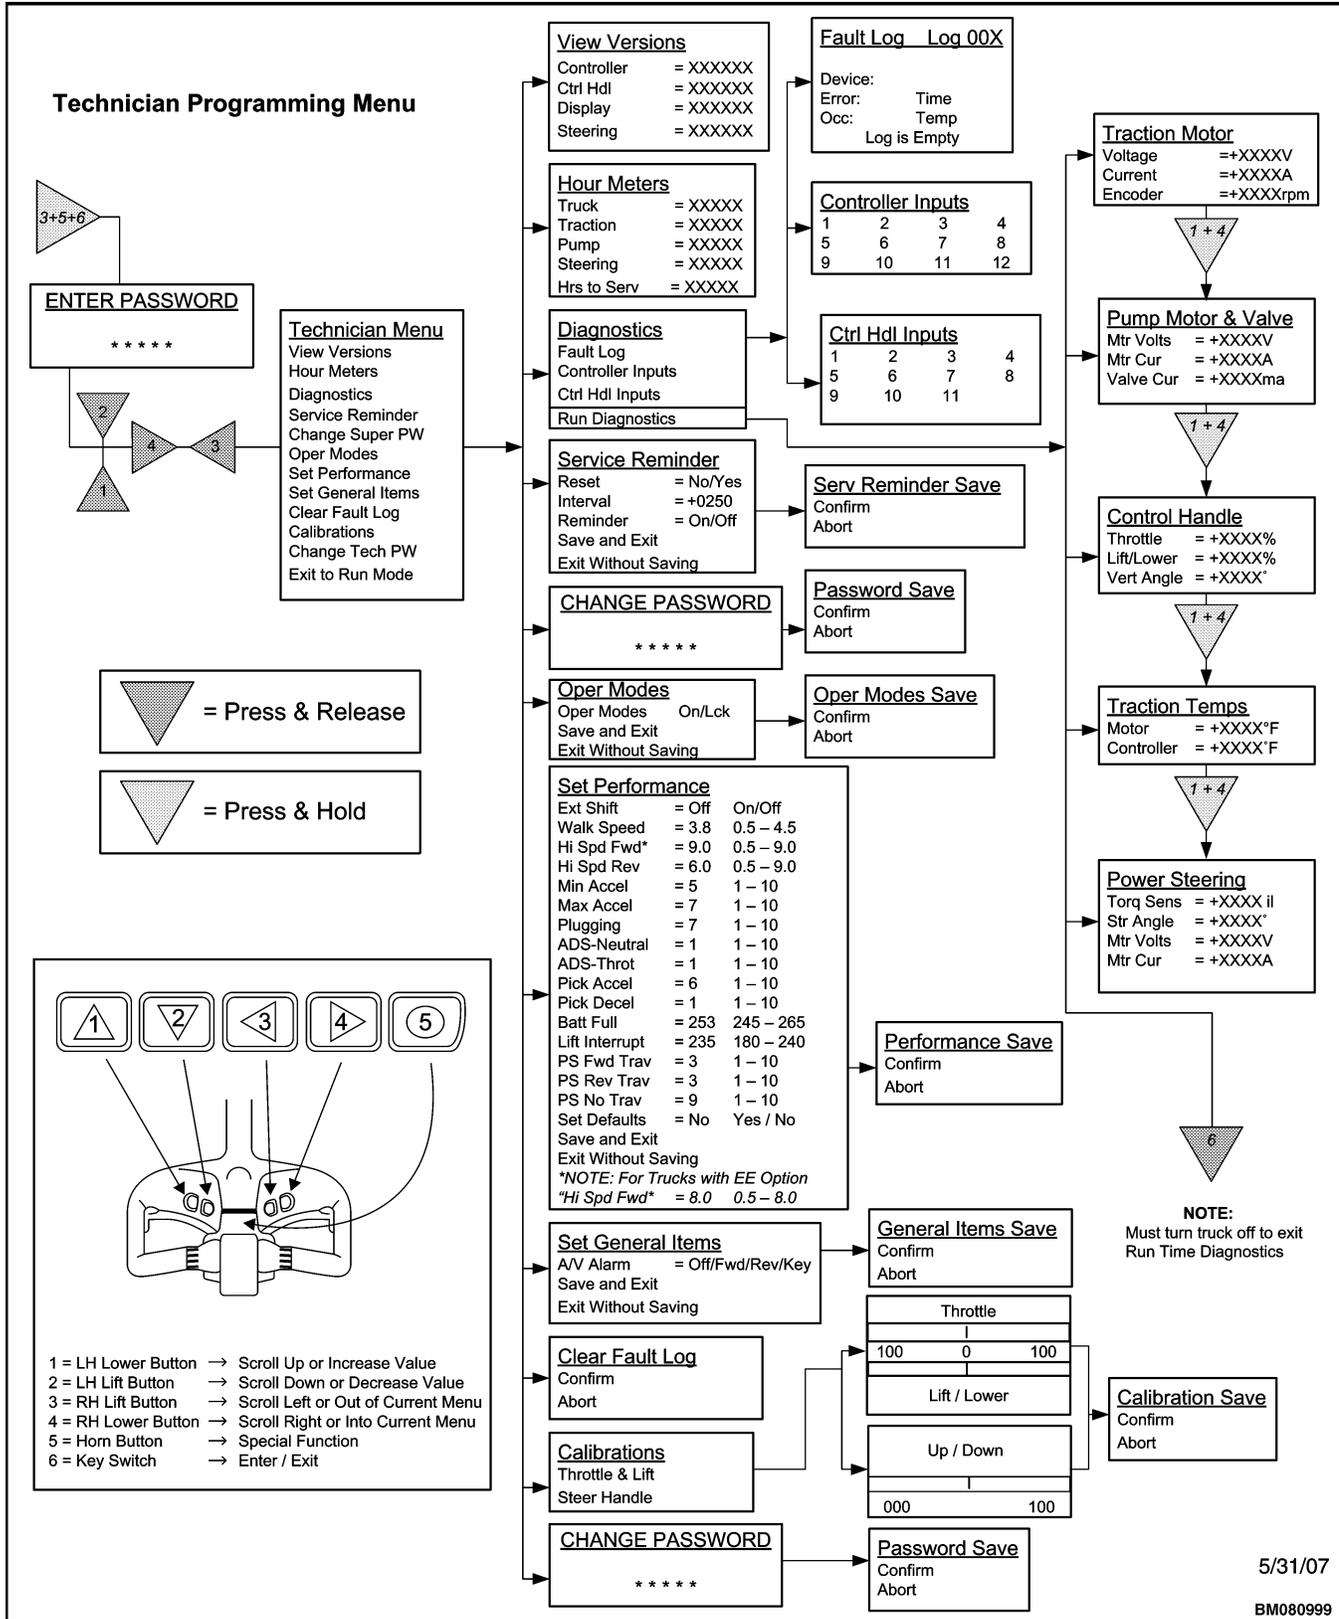

Figure 5. Menu Navigation Flowchart
1. Simultaneously depress and **HOLD** the RH LIFT switch and the HORN switch (located on the control handle). See Figure 5.
Use the LH LIFT and LH LOWER switches to scroll up and down between the menu choices. When the proper menu item has been highlighted, press the RH LOWER switch to move to the selected submenu. Use the RH LIFT switch to return to the previous menu. To exit the menu system, select "Exit To Run Mode" and press the RH LOWER switch to return to normal truck operation. When changing a value or setting, pressing the LH LOWER switch will cause the selected value to DECREASE. Pressing the LH LIFT switch will cause the selected value to INCREASE. See Figure 5.
When changing a value or setting, pressing the #1 switch will cause the selected value to INCREASE. Pressing the #2 switch will cause the selected value to DECREASE. See Figure 5.